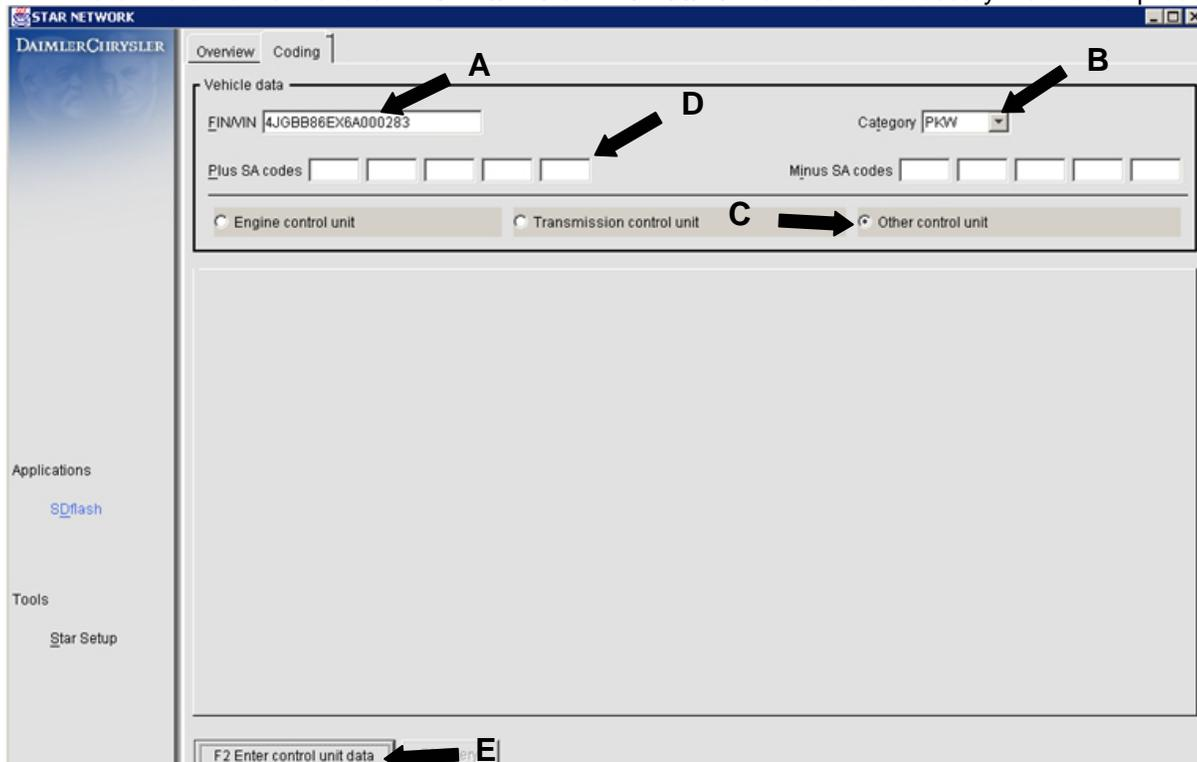

Figure 6
2. Enter data into required fields (Figure 6).
- (A) Enter VIN into 'FIN/VIN' window.
- (B) Enter PKW in the 'Category' box.
- (C) Click on 'Other control unit.'
- (D) Enter SA Codes in the 'Plus SA codes' window **ONLY IF** you are installing a Dealer installed accessory.
- (E) Click on the button 'F2 Enter Control Unit Data.'
Note: If you see the following message (Figure 7a) pop-up after pressing the 'F3 Query' button(Step 3), this means that the SA Code that you have entered has already been reflected in the vehicle record. Because the SA Code is already in the vehicle record, it cannot be entered in again. Please delete the SA Code that was entered (Figure 6, Arrow D) and Click the 'F3 Query' button again to generate the SCN Code. The SCN Code will be generated and it will reflect the Dealer Fit Accessory that has been installed into the vehicle.